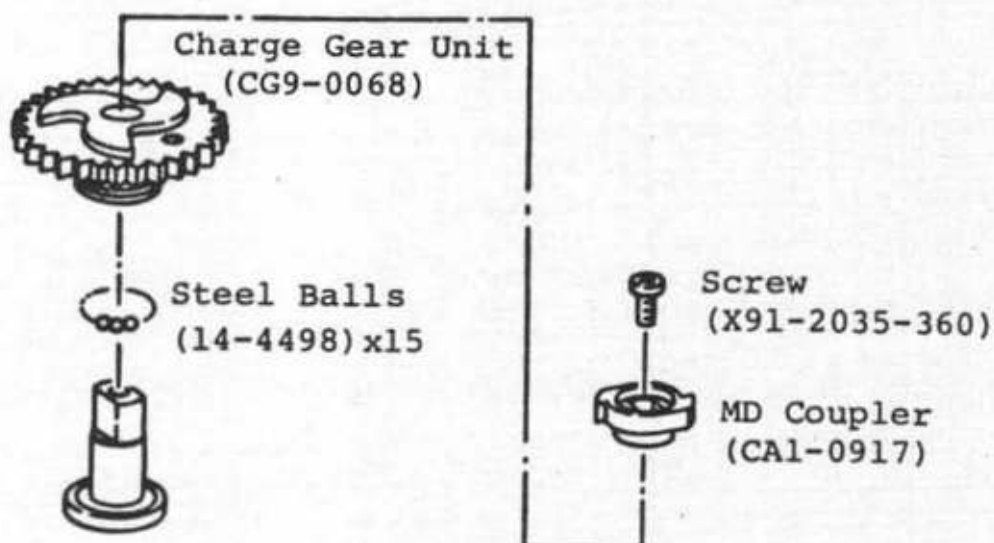

Fig. 2-19
1. Install the parts as shown in figure 2-19.